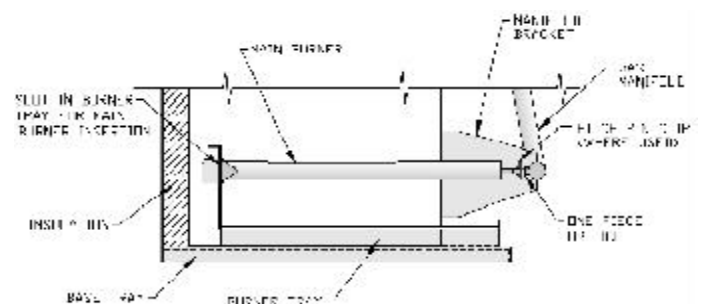

Figure 11: Main Burner Installation
C. Check main burners. See Figure 11. Rear of burner must be in vertical slot in rear of burner tray. Front of burner must be seated on orifice.